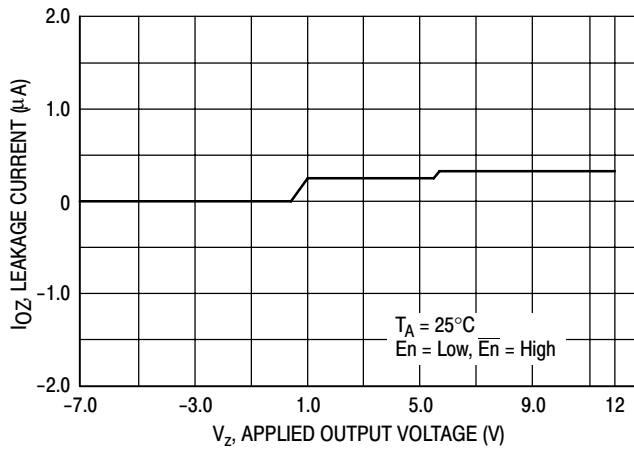

Figure 13. Output Leakage Current versus Output Voltage
- the junction temperature exceeds the trip point of the thermal shutdown circuit (see below). When in this condition, the output's source and sink capability are shut off, and only leakage currents will flow (see Figures 13, 14). Disabled outputs may be taken to any voltage between -7.0 V and 12 V without damage.